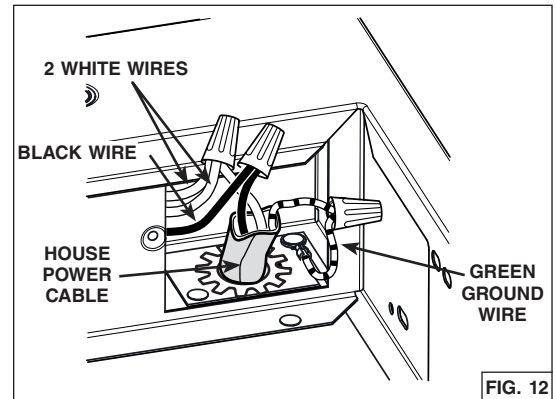

FIG. 12
1. Using appropriate wire nuts (not included), connect house power cable to power module wiring: BLACK to BLACK, WHITE to both WHITE wires and GREEN or bare wire to GREEN ground wire (Fig. 12).